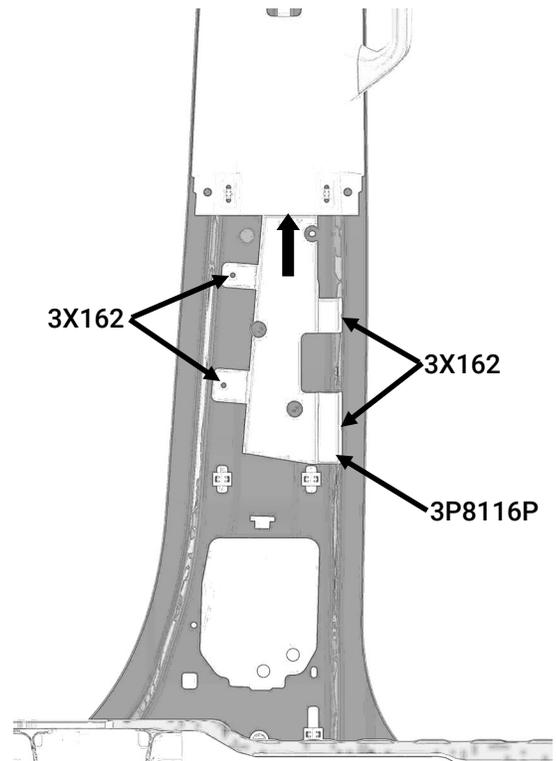

Fig. 1
- Locate the B-pillar brackets [3P8116D and 3P8116P]. Rearward flanges will wrap around B-pillar and top of bracket will be up against the upper trim (Figure1).
- Drive in (4) self-tapping screws [3X162]. If required, use a 3/16" drill bit for pilot hole.